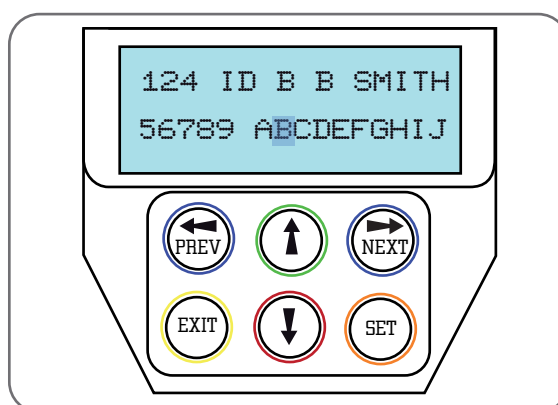

Fig F.5
- Press UP or DOWN arrows to scroll through and select a new character. (**Fig. F.5**)